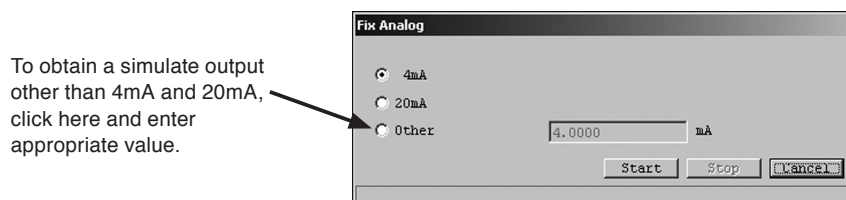

Fig.57
- ② A message box like the one shown in Fig. 57 appears. Select the simulated output level and click on "Start" button. If you want to obtain any current output in analog value (4 to 20mA) other than "4mA" and "20mA", select "Other" key in the analog value for the output desired, and click on "Start".